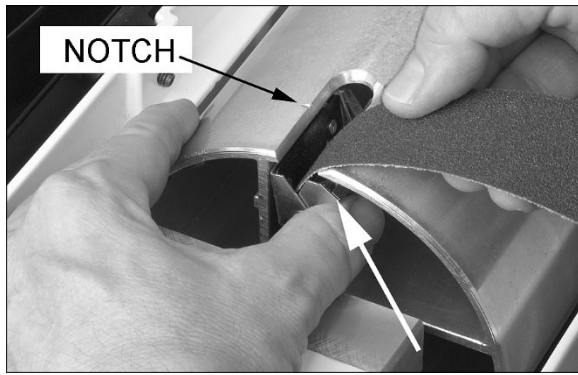

Figure 5-4
2. Press fastener lever (Figure 5-4) on outboard (left) end of drum, and insert tapered end of abrasive through slit in fastener, as shown. Align tapered edge of abrasive strip with left edge of drum. Insert enough strip so that the right edge aligns with the reference notch; this will ensure the proper length of strip to be secured at the opposite end of the drum.